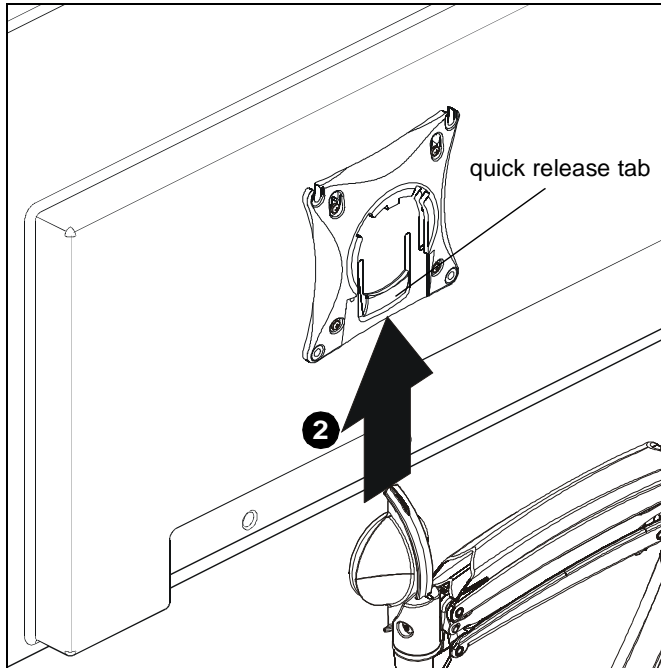

Figure 18
WARNING: Only remove display from mount when the display can be lifted up from the mount! DO NOT remove display unless the display is in the upright position! (See Figure 18)
2. Remove quick release faceplate from mount by pressing quick release tab and sliding faceplate off mount. (See Figure 18)